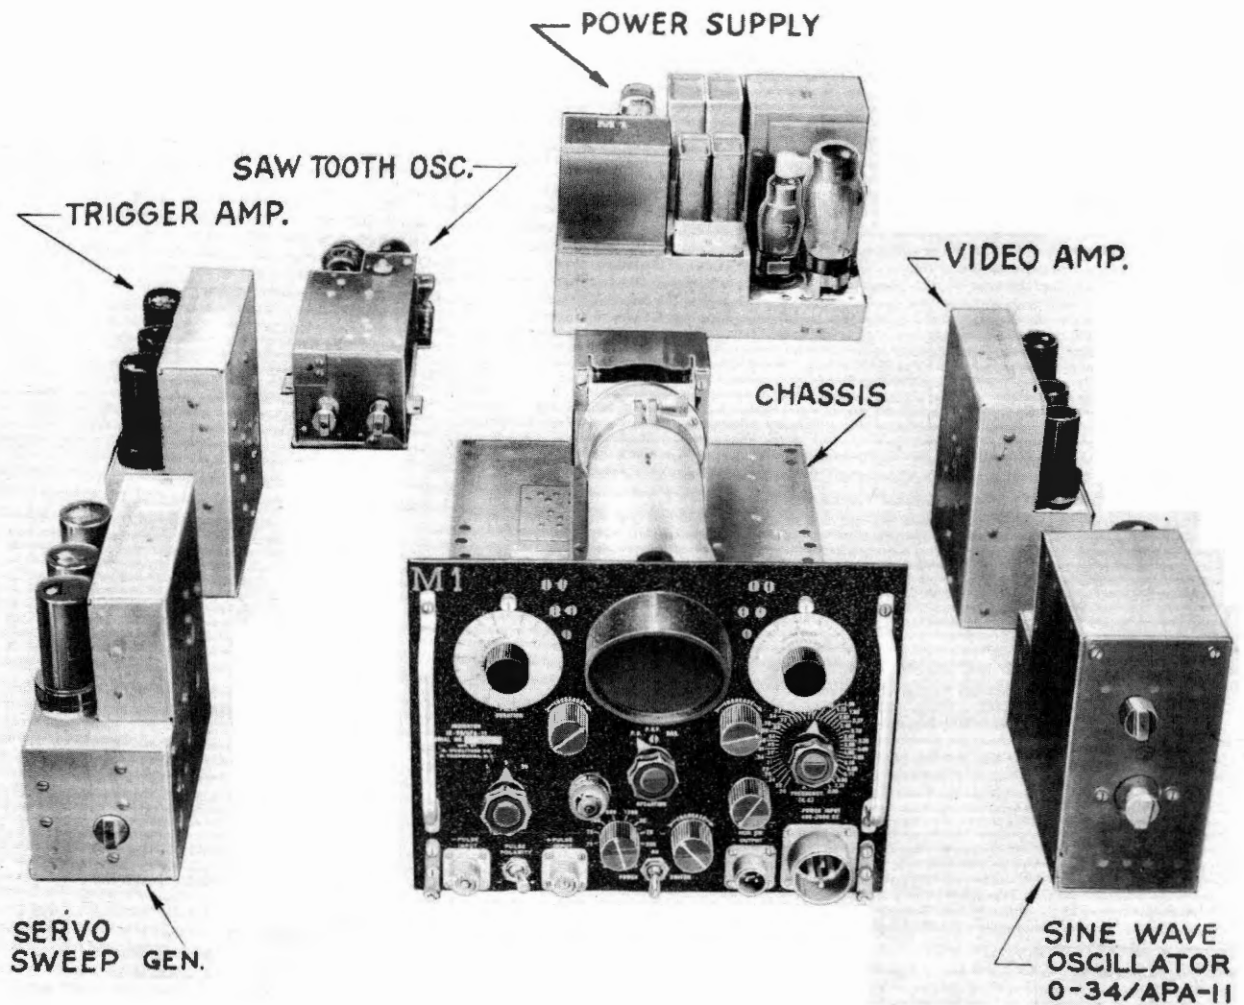

Figure 1-3. Indicator ID-59/APA-11—Units Removed
a. INDICATOR ID-59/APA-11.—This indicator is a chassis and control panel with the following six plug-in units. (See figure 1-3.)